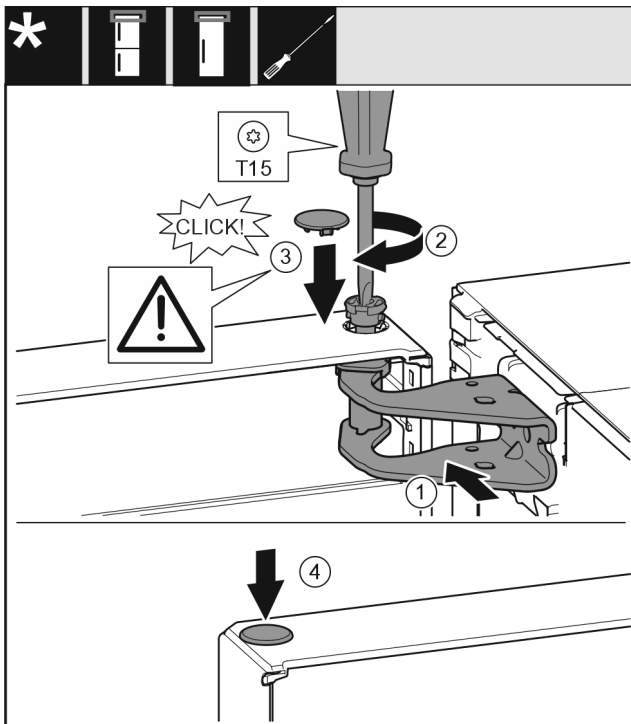

Fig. 21
- ▶ Align the top of the door with opening in the bearing bracket. Fig. 21 (1)
- ▶ Insert the bolt and tighten with a T15 screwdriver. Fig. 21 (2)
- ▶ Fit the protective cover to protect the door: Insert the protective cover and check that it is flush to the door. If not, insert the bolt fully. Fig. 21 (3)
- ▶ Insert the plugs. Fig. 21 (4)